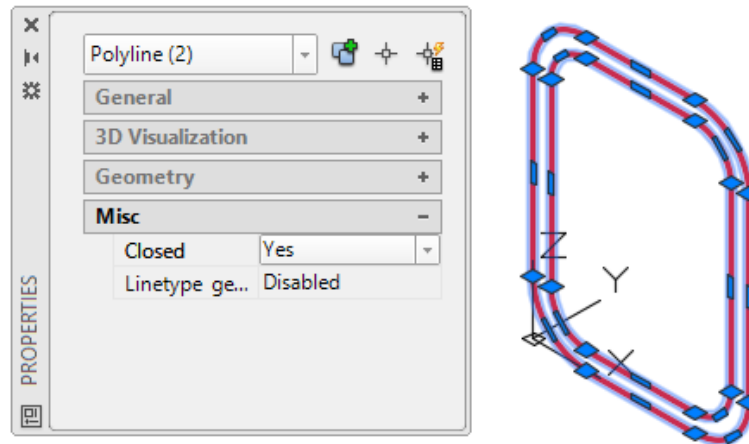

Figure Step 6
Step 6 Change the lines and arcs into two closed polylines using the PEDIT command. Check them using the Properties window. (Figure Step 6)